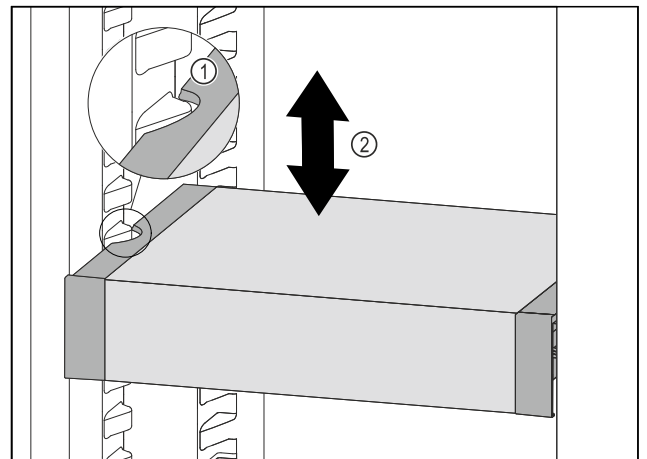

Fig. 117
- ▶ Pull VarioSafe forwards until the recesses in the side of the VarioSafe are at the level of the support rib in the refrigerator compartment. Fig. 117 (1)
- ▶ Move VarioSafe up or down in the refrigerator compartment until the desired height is reached. Fig. 117 (2)